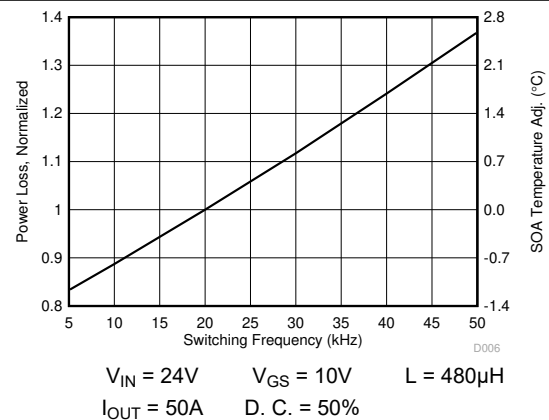

Figure 4-4. Normalized Power Loss vs Switching Frequency
- Normalized power loss for switching frequency \approx 1.24 (図 4-4)
- SOA adjustment for switching frequency \approx 1.7°C (図 4-4)